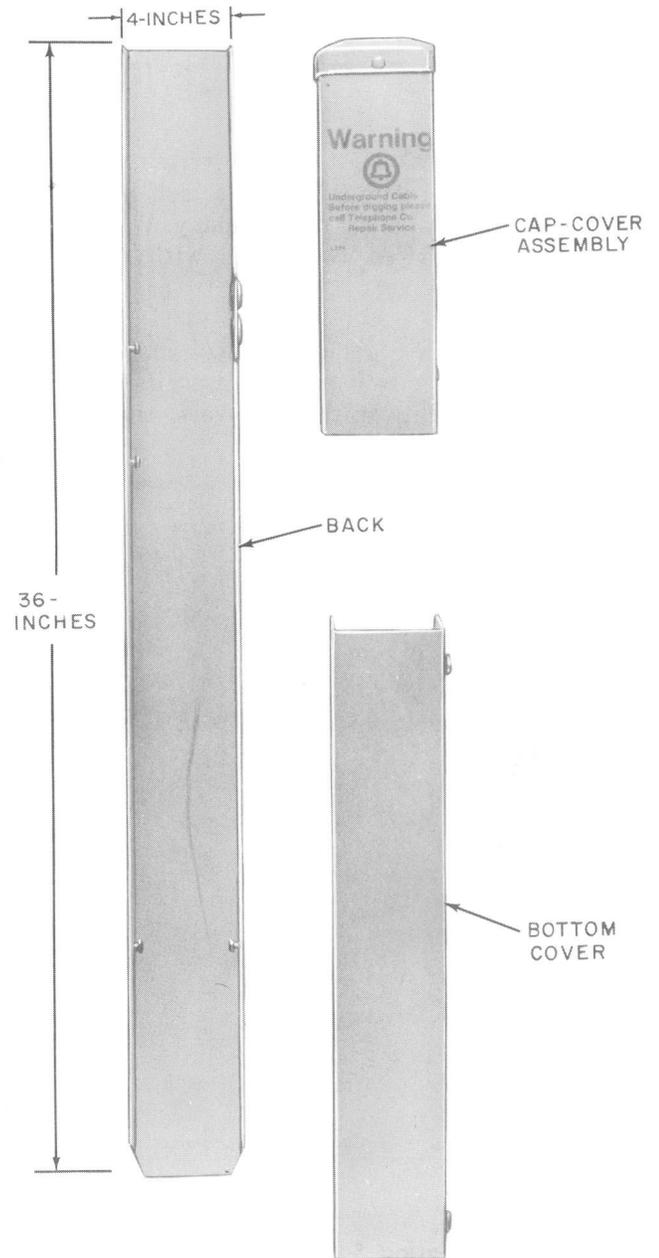

Fig. 1—B Wire Storage Closure
2.01 The B wire storage closure is illustrated in Fig. 1. The closure is free standing and is to be removed for reuse when service wire terminations are completed.